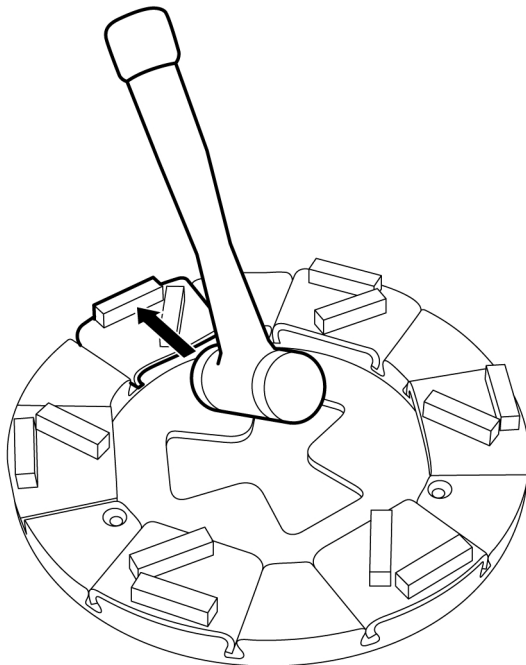

Figure 4-4. Locking grinding tools
2. Lock the grinding tool into the tool holder by giving it a few light taps with a rubber hammer - see Figure 4-4, page 15.
3. Lock the grinding tool into the tool holder by giving it a few light taps with a rubber hammer - see Figure 4-4, page 15.